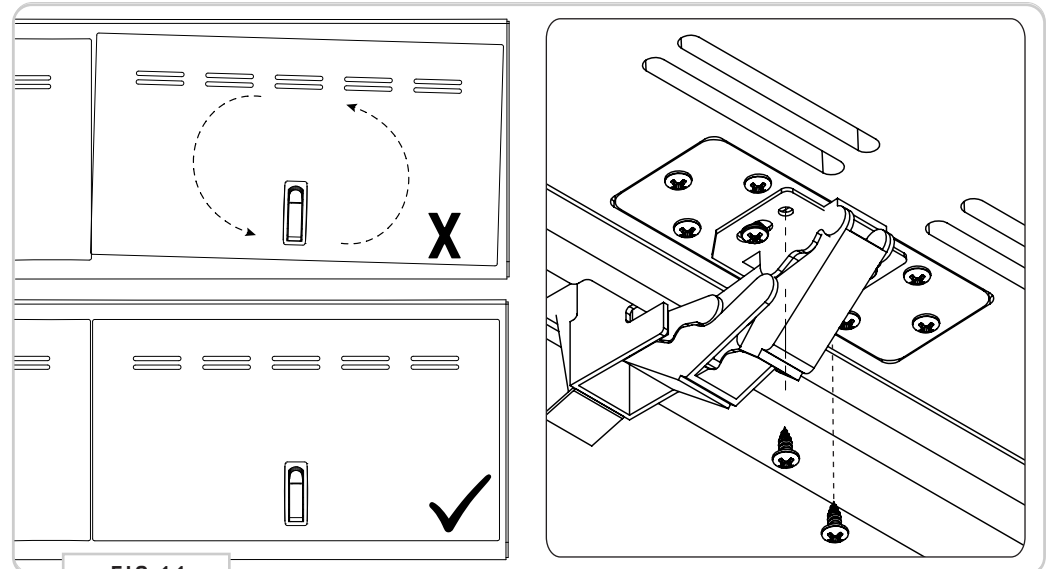

FIG 11
**5.2** Once alignment is achieved, add (2ea) **#6 Wood Screws** into the setting hinge slots as pictured in **FIG 11**.